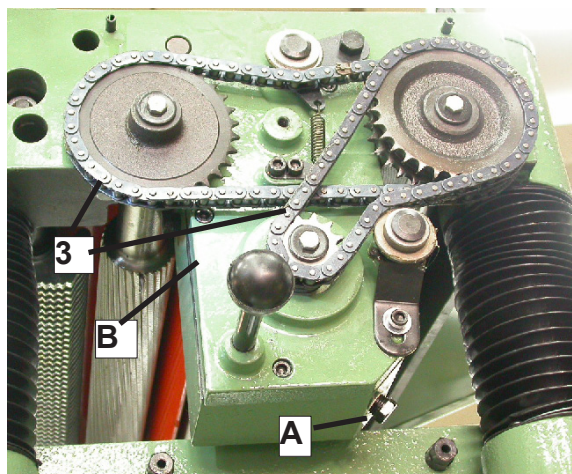

Fig 4
1. Remove the drain plug (A). Fig 4 and tiller Cap (B) ,Drain dirty oil thoroughly.
2. Tighten the drain plug (A)
3. Fill with clean lubricant through hole (B)
4. Tighten the filler cap (B)